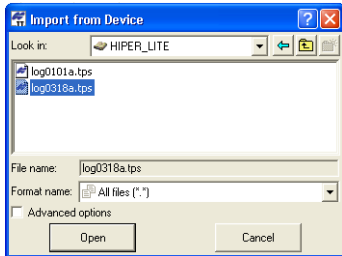

Figure 2-7. Select the Raw Data File to Import
4. To import the file(s) from the receiver to the current job, highlight the file(s), set the corresponding file format in the *Format name* field and click **Open** (Figure 2-7 on page 11).